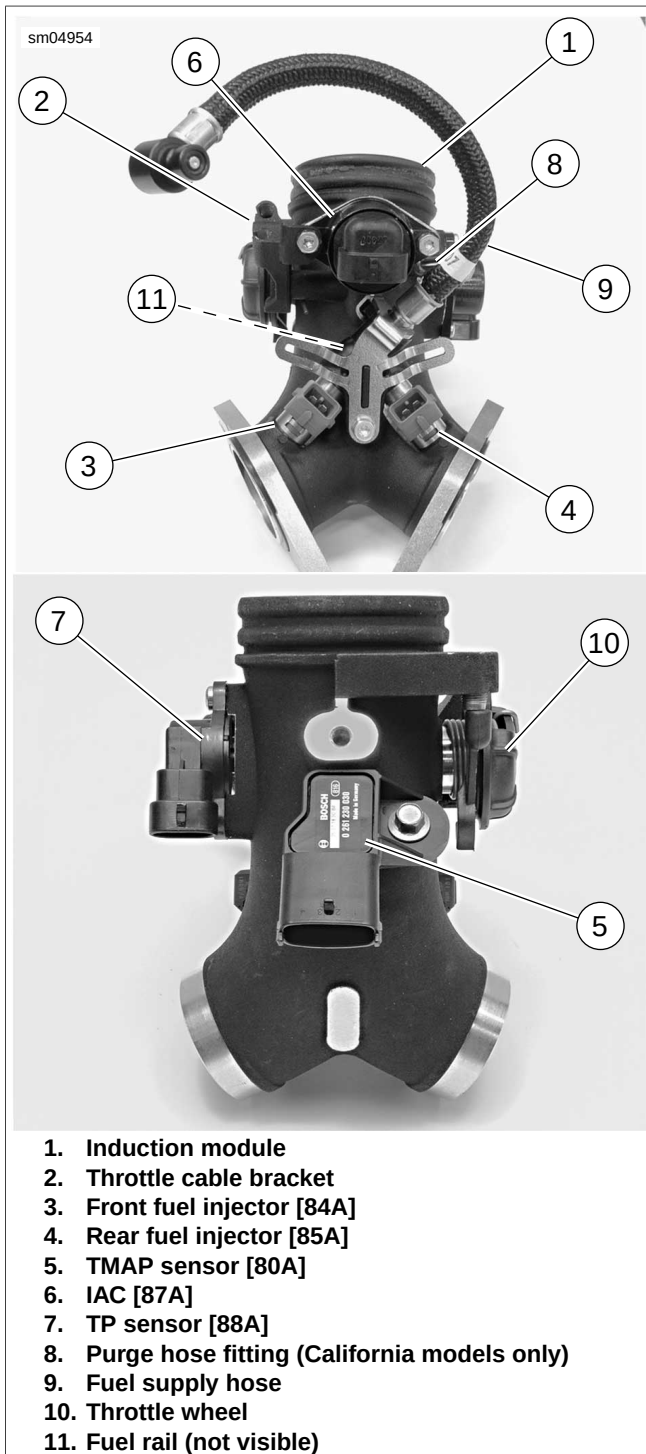

Figure 4-50. Induction Module Assembly (Removed from Vehicle for Clarity)
7. See Figure 4-50. Unplug the following connectors:
- a. front fuel injector (3) connector [84],
- b. rear fuel injector (4) connector [85],
- c. TMAP sensor (5) connector [80],
- d. IAC (6) connector [87],
11. **California models only:** See Figure 4-50. Install purge hose onto fitting (8) on induction module (1).
- a. Front fuel injector (3) connector [84],
- b. Rear fuel injector (4) connector [85],